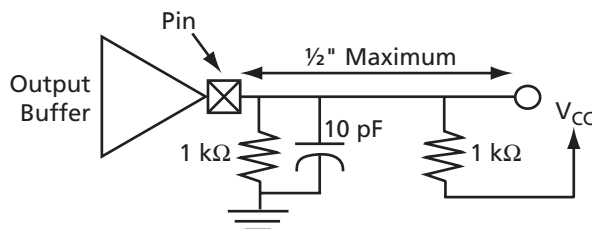

Figure 1-14 • 3.3 V PCI Slew Load
3. This parameter is to be interpreted as the cumulative edge rate across the specified range, rather than the instantaneous rate at any point within the transition range. The specified load (Figure 1-14) is optional; i.e., the designer may elect to meet this parameter with an unloaded output per the latest revision of the PCI Local Bus Specification. However, adherence to both maximum and minimum parameters is required (the maximum is no longer simply a guideline). Rise slew rate does not apply to open drain outputs.